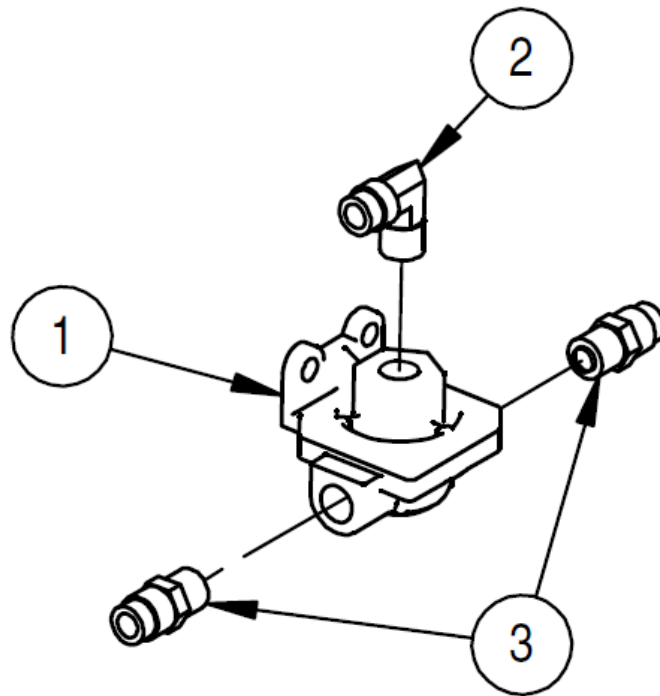

Figure 2.1
3. Prepare the new quick release valve 0832-MM5-007 (*Item 1*) by installing 0716-MM5-BB10 (*Item 2*) into top port of quick release valve and 0716-MM5-Y12 (*Item 3*) into side ports of quick release valve. See *Figure 2.1*.